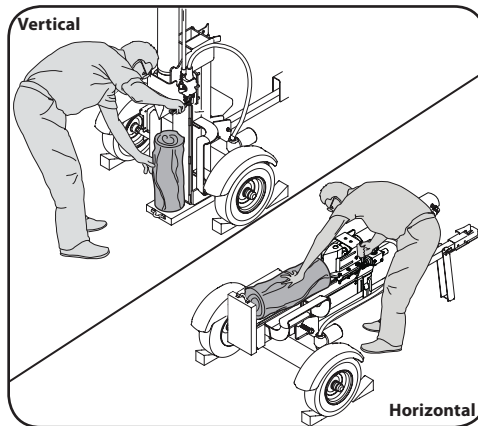

Figure 2-1
6. Always operate this machine from the operator zone(s) specified in the manual. See Fig. 2-1.